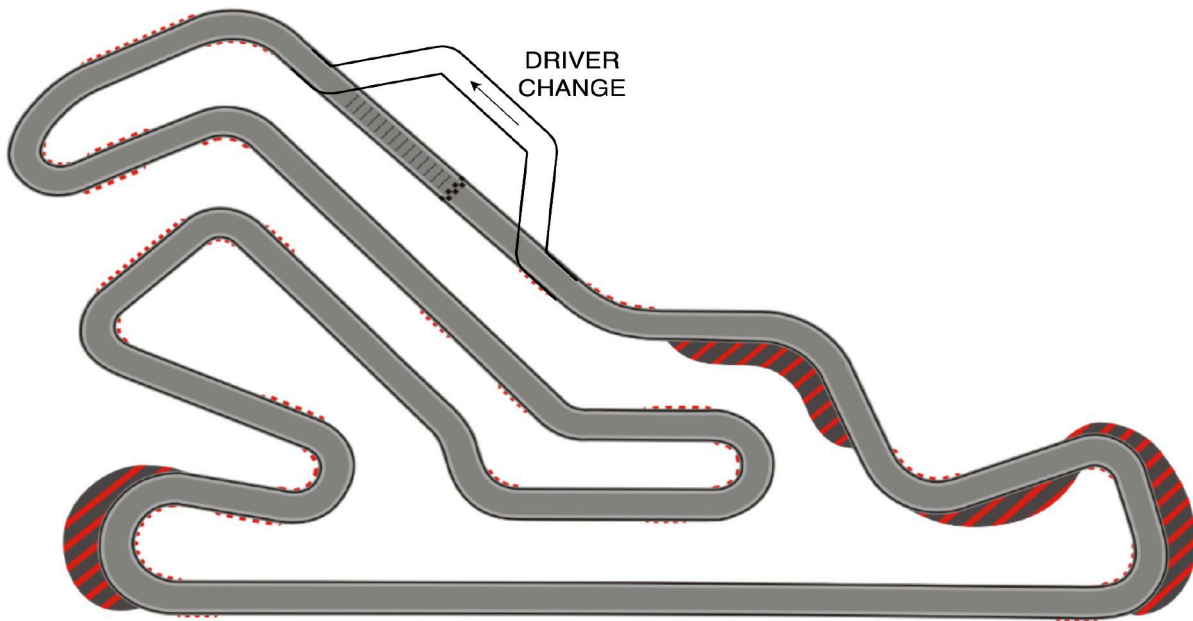

Figure 9: Example Endurance event track.
- a. The race will consist of laps around a circuit course similar to the one shown in Figure 9.